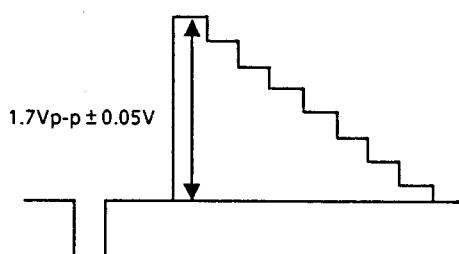

Fig. 4-11
- Keep the connection for step (13).
- Adjust VR34 so that the level of the Y signal becomes $1.7V_{p-p} \pm 0.05V_{p-p}$. (Fig. 4-11)